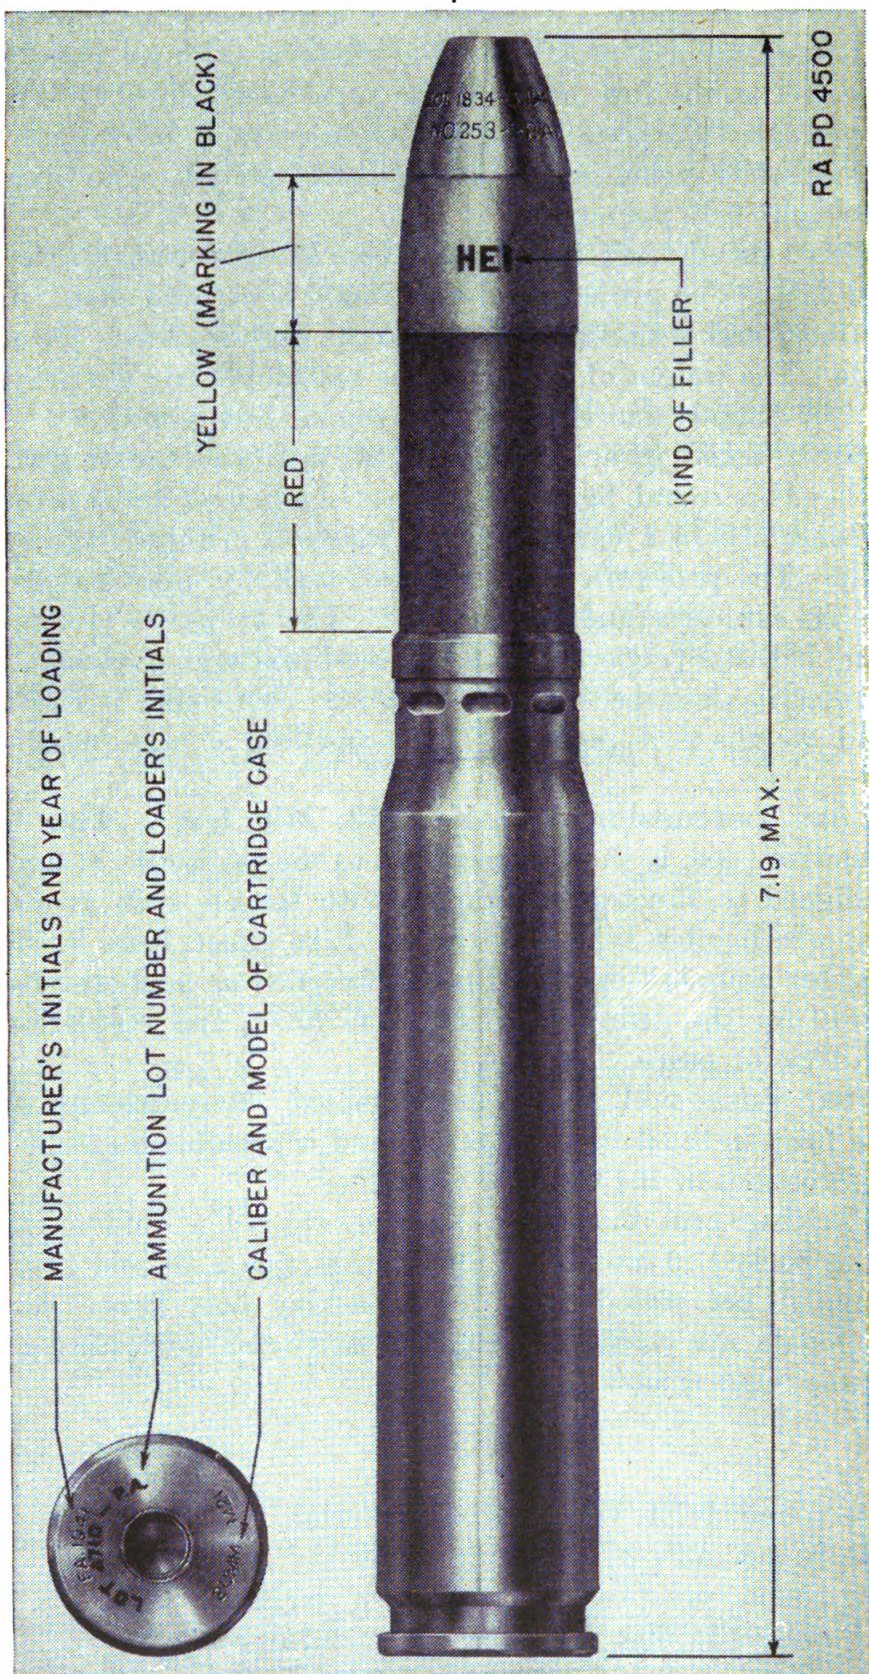

FIGURE 16.—Shell, fixed, HEI, with fuze, DA, No. 253, Mk. I/A/, 20-mm automatic guns M1 and M2.
round, shown in figure 16, consists of a primer and a propelling charge contained in a cartridge case which is crimped rigidly to a fuze-d projectile, the fuze being of the supersensitive type. The projectile contains 0.03 pound of high explosive and incendiary filler. The round is 7.19 inches long and weighs 0.57 pound. The propelling charge weighs 0.07 pound.
24. Fuze, percussion, DA, No. 253, Mk. I/A/.—This fuze, a supersensitive type, is shown assembled to the projectile in figure 16. It is designed to function on impact with targets such as airplane surfaces, which offer little resistance. Like other fuzes used with small caliber ammunition, this fuze is classified as nonboresafe. See AR 750-10 for the definition of boresafe fuzes, and regulations for firing in time of peace.